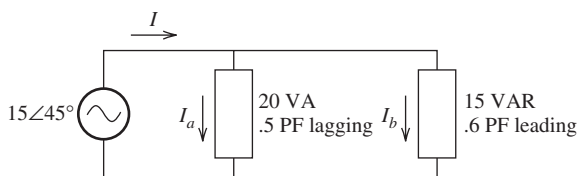

FIGURE P6.60 Circuit for Problem 6.60.
- 6.60** (A) Find the current, I , in Figure P6.60: